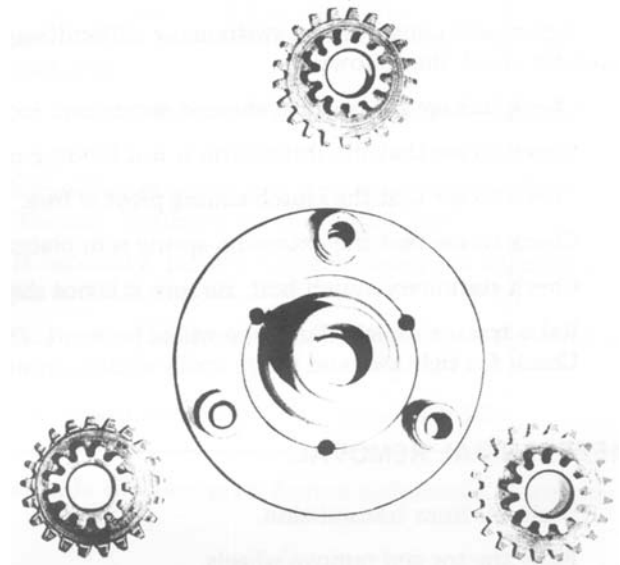

Figure 57
- d. Mesh the three gears with Sun pinion so that the timing marks form an equal sided triangle. Timing marks (A, Figure 57) are small punches on the opposite side of gears.